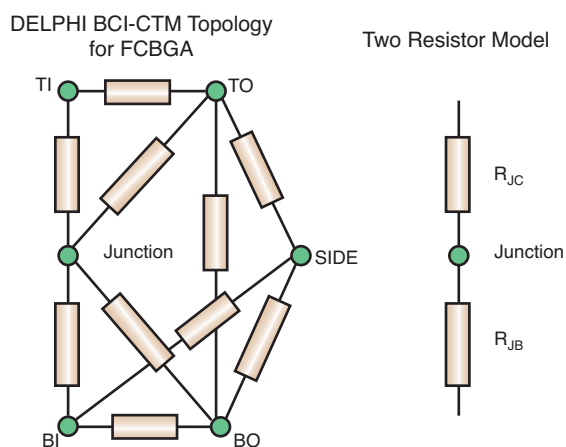

Figure 2 – CTM topologies
2. A Delphi compact model comprising several thermal resistors that connect a junction node (representing the die) to several surface nodes. Thermal links are also allowed between the surface nodes. Figure 2 shows the topology for a flip-chip BGA Delphi compact model. The matrix of resistors has been optimized through a Delphi optimization algorithm so that they can be used in various environments without compromising prediction accuracy.